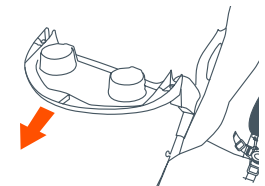

Fig. 10d
- To remove the child tray:** Press the release button and rotate the tray 180 degrees and pull the tray until it is released (Fig. 10d).